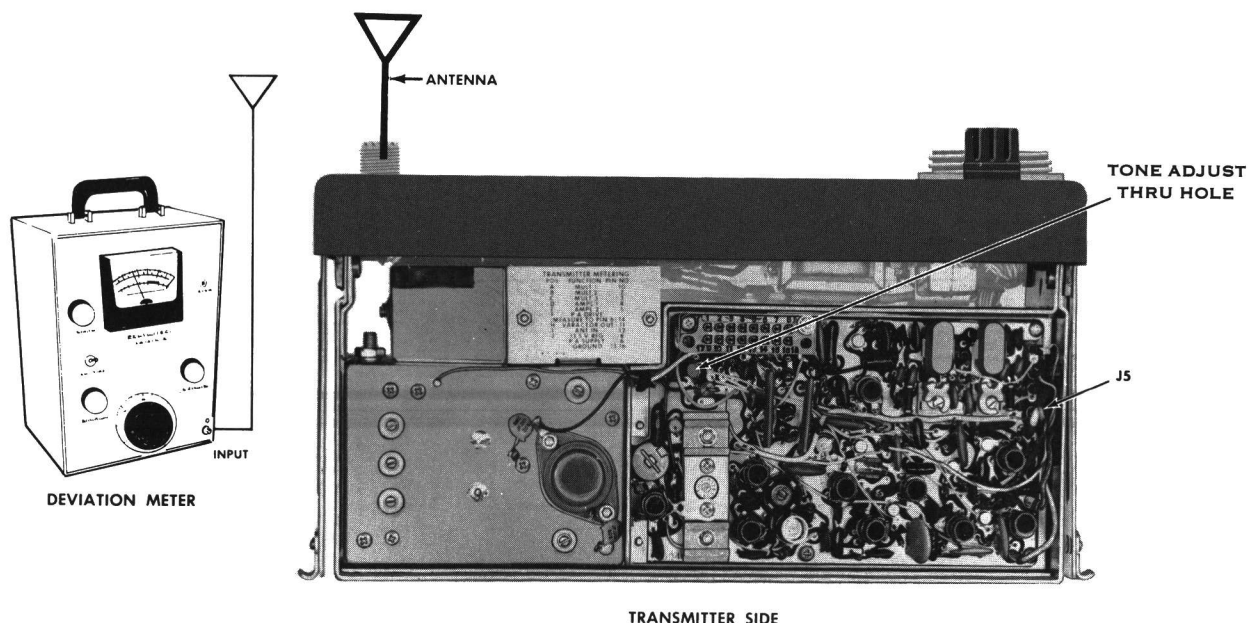

Figure 1 - Channel Guard Tone Deviation Adjustment
1. Set up the deviation meter to monitor the transmitter as shown in Figure 1.